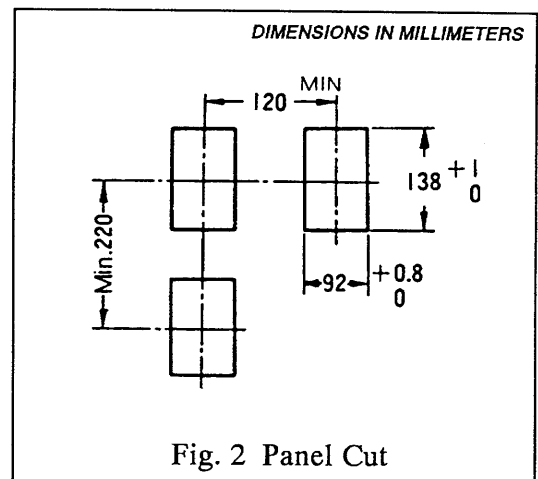

Fig. 2 Panel Cut
2. If two or more computers are to be installed side by side, dimensions in Fig. 2 are suggested.